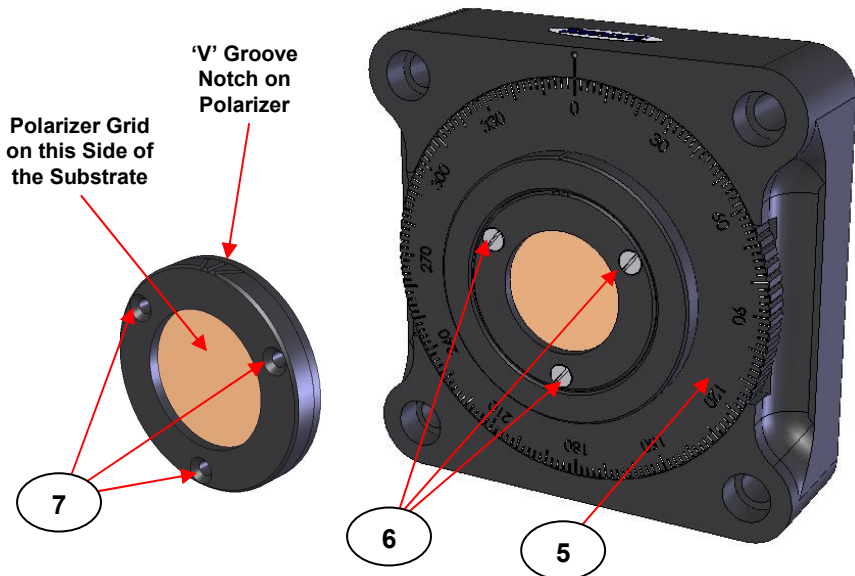

Fig 3. 25mm C.A. GS57010 Series Polarizer Fitted Within its Compatible Rotator Mount P/N GS57340
For installation of a GS57010 Series polarizer, the three fixing screws (6) supplied with the GS57340 Series rotator mount and fitted within the graduated rotator wheel (5) are used to secure through the three fixing holes (7) of the anodized aluminium ring mount of the GS57010 Series polarizer itself. **Fig 3.** shows an example of a 25mm C.A. GS57010 Series polarizer compatible for fit (and fitted) in the P/N GS57340 as the front view.